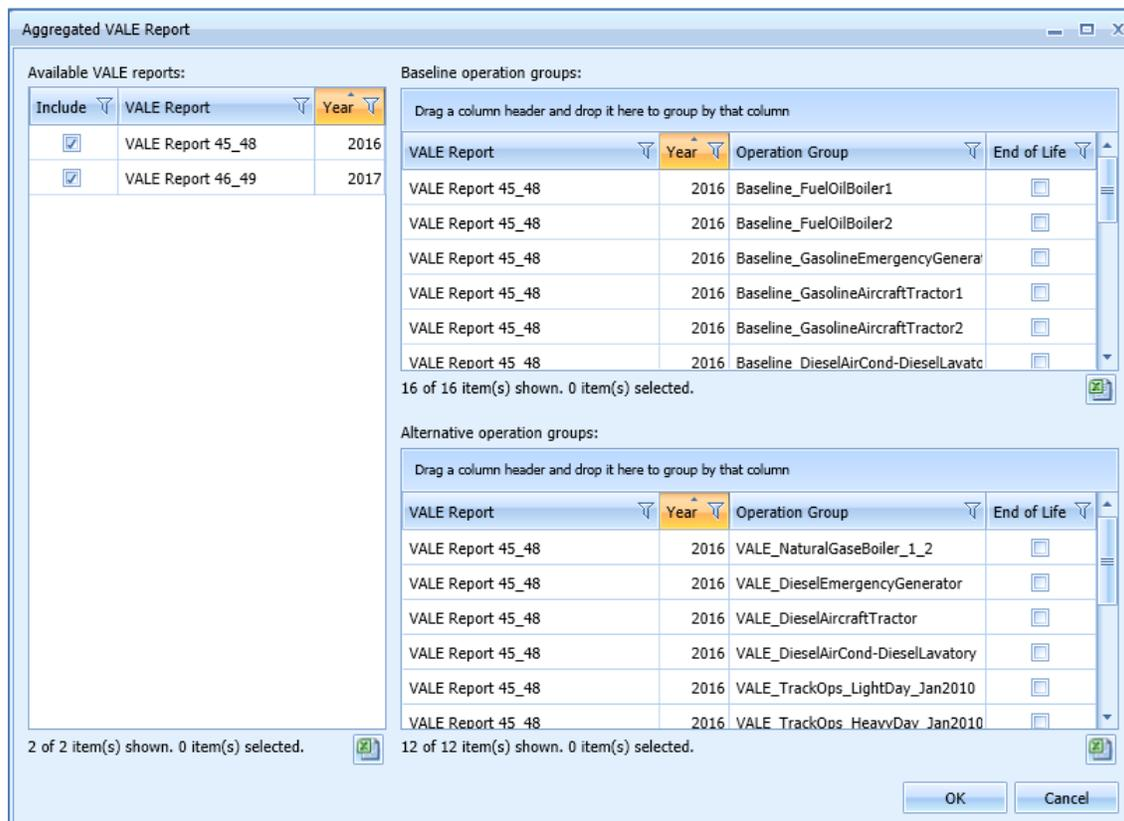

Figure 5-64 Sample Aggregated VALE Report Dialog
2. From the *View Reports* ribbon group, click *Aggregated VALE Report* to open the *Aggregated VALE Report* dialog will (Figure 5-64).